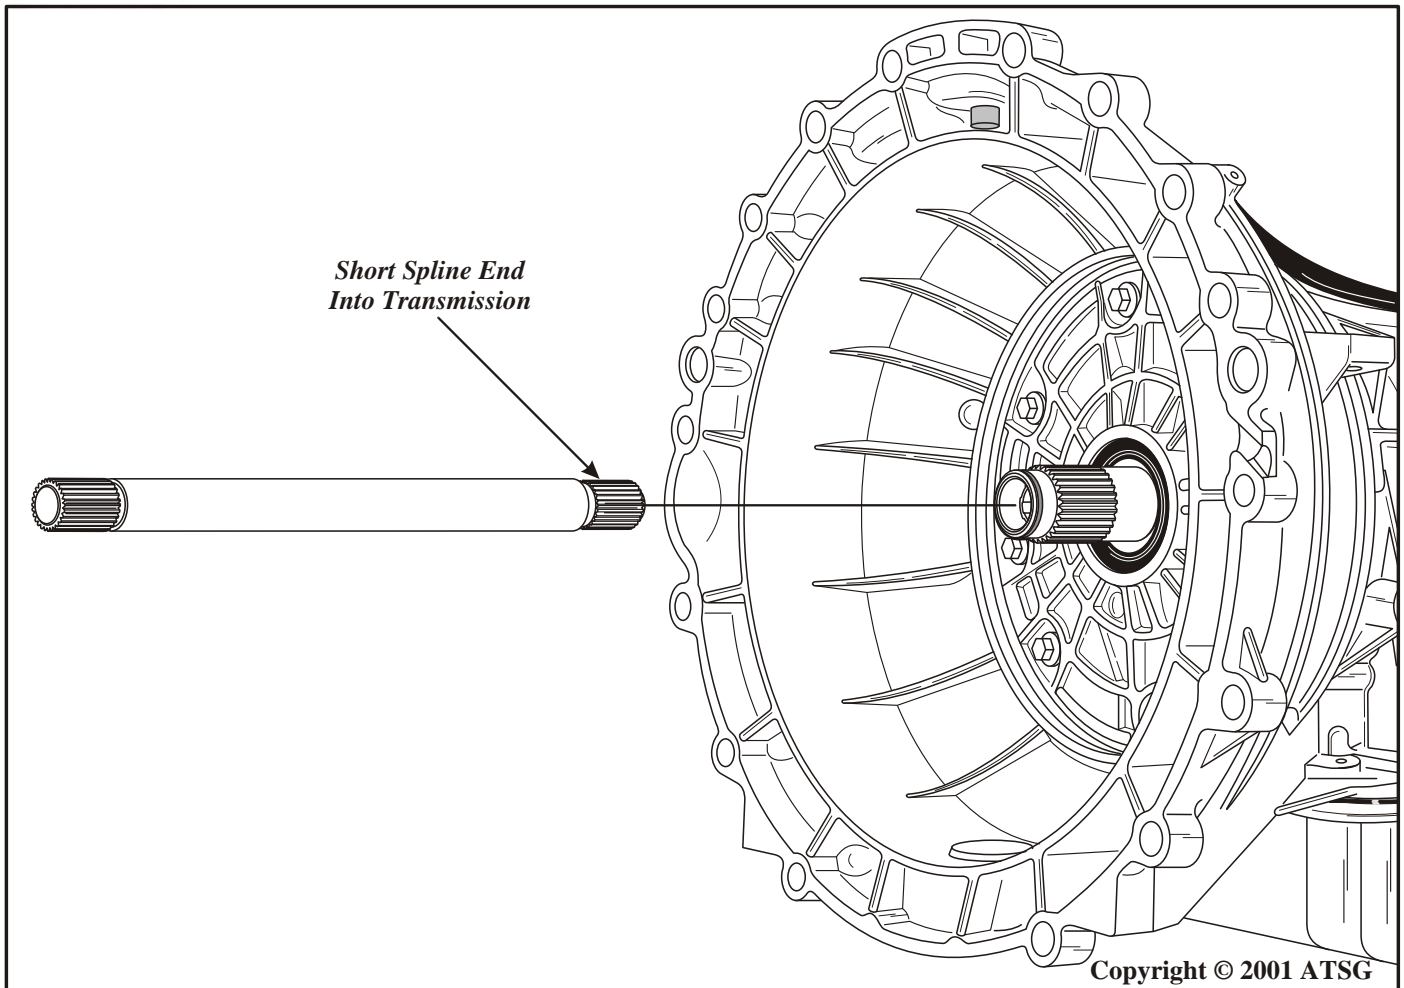

Figure 189
9. Install the input shaft into the transmission, as shown in Figure 189.
Caution: The splines on input shaft are not the same length on both ends. The end with the shorter splines goes into transmission, as shown in Figure 189.